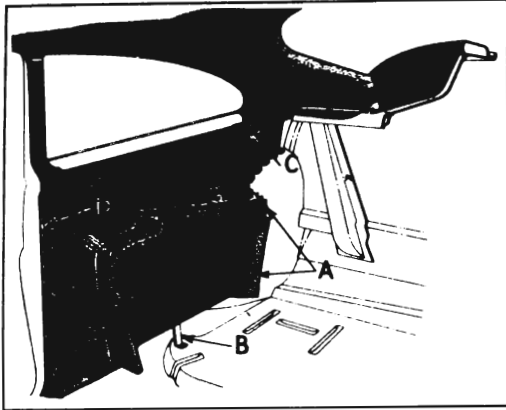

Figure 13-45—Rear Quarter Arm Rest and Trim
2. Carefully loosen arm rest material from cement and retaining tabs at wheelhouse area indicated at "A," figure 13-45.
5. Loosen cemented portions of trim at wheelhouse and floor areas. Also free top rear portion of trim panel from tabs which also secure headlining at "C," figure 13-45.